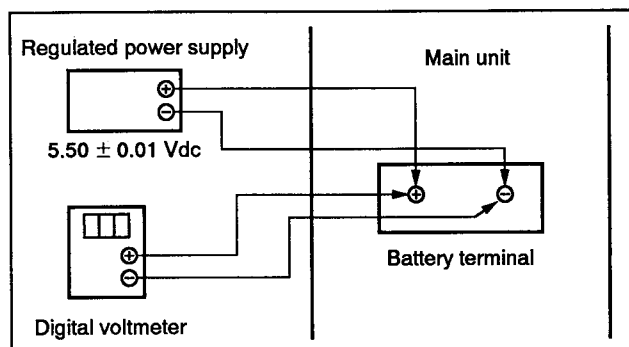

Fig. 7-3-4.
- 1) Connect the regulated power supply and the digital voltmeter as shown in Fig. 7-3-4.